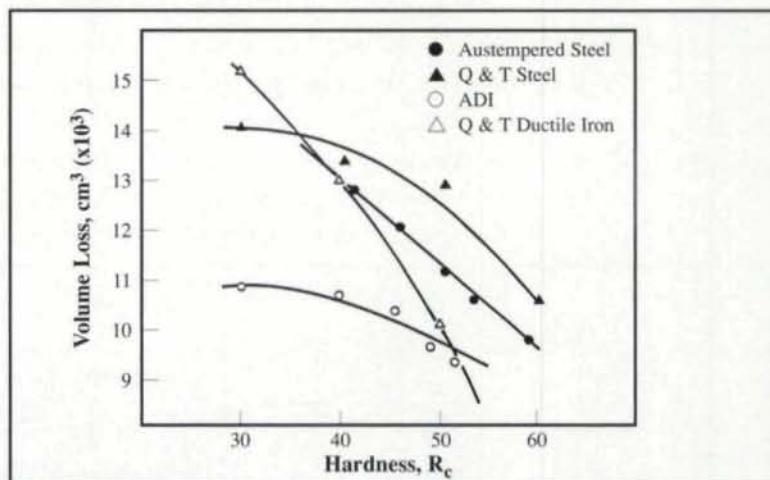

Fig. 5 — Pin abrasion test.
ADI can be produced with hardnesses ranging from approximately 30-50 Rc. As can be seen from Fig. 5, however, the wear resistance of ADI for a given hardness level is superior to that of many conventional materials. In fact, in many applications ADI with 42-46 Rc has replaced 60-Rc carburized and hardened 8620 with equal or better performance.
Fig. 5 — Relationship between leak rate in a vacuum furnace and decarburization of a 1% C steel strip 0.15 mm (0.006 in.) thick. Treatment time: 2: hours at 1050°C (1920°F).
**Atmosphere Integrity.** The “atmosphere” of a vacuum furnace, which guarantees neutrality to the surface of the part, is really a vacuum and as such is subject to leakage. For this type of furnace, the greatest variable in atmosphere integrity is its leak rate, which controls the effectiveness of the vacuum. Fig. 5 shows the effect of leak rate on decarburization of a 1% plain carbon steel. However, it is also important